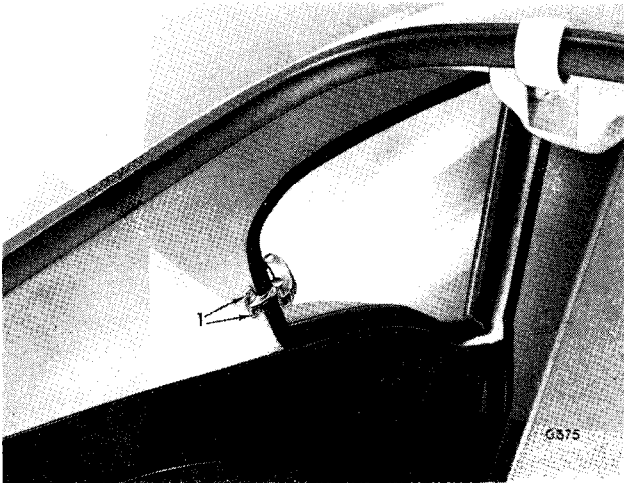
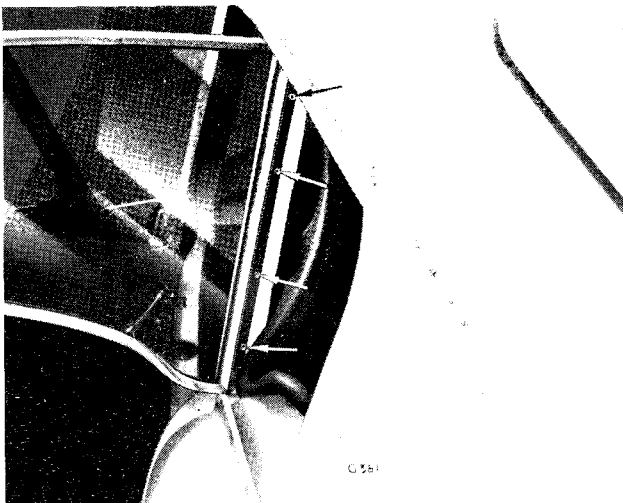

Fig. 44. Rear quarter-light catch
Fig. 45. Rear quarter-light pop-rivets
Remove two screws (1) (Fig. 44). Prise off the rear wing finisher strip. Pull away the fore-edge of the aperture sealing rubber. Drill out four pop-rivets (Fig. 45).